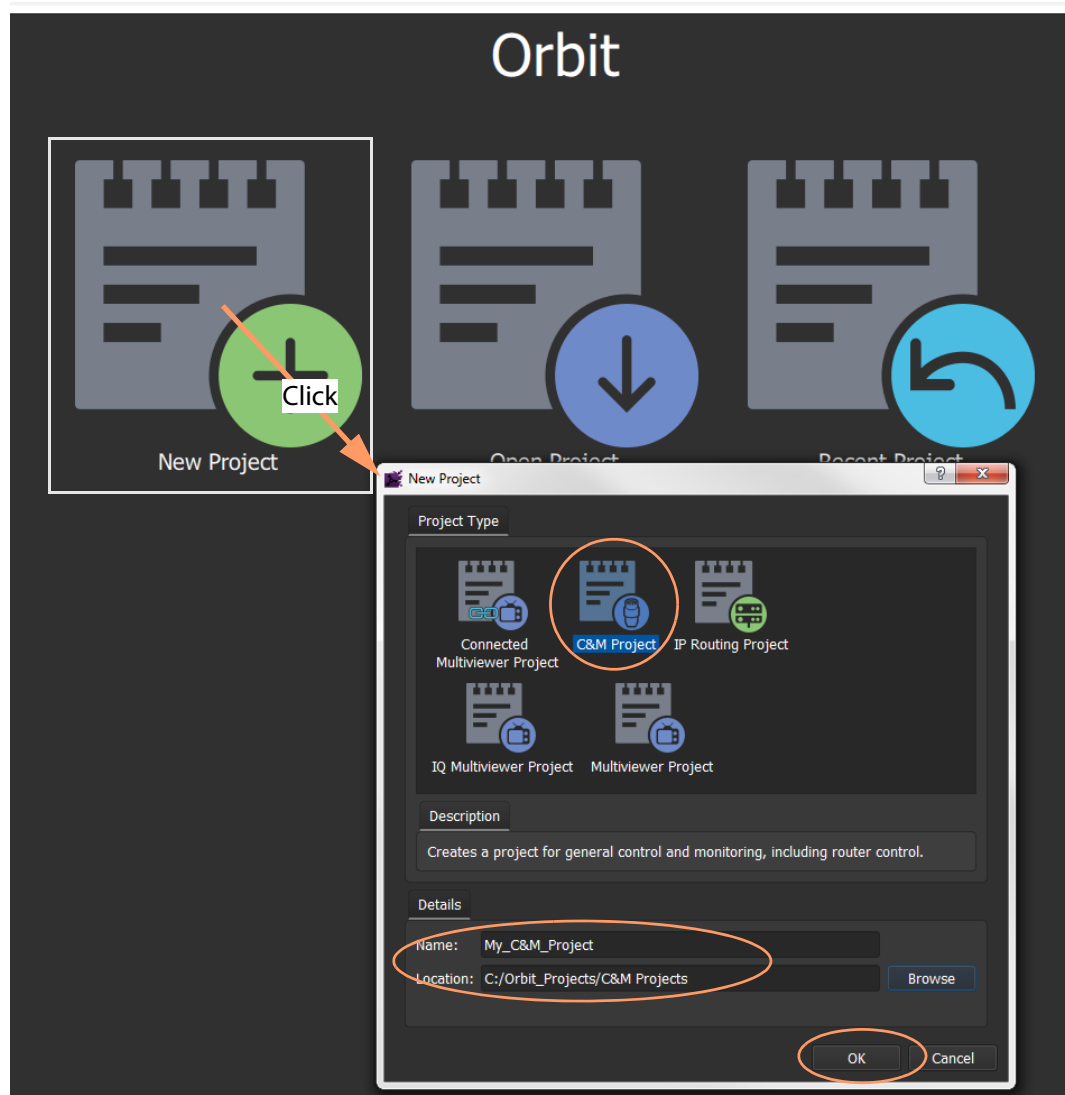

Fig. 2-2: Creating a New Orbit 'Control and Monitoring' Project
- 1 Click the 'New project' icon. See Figure 2-2.